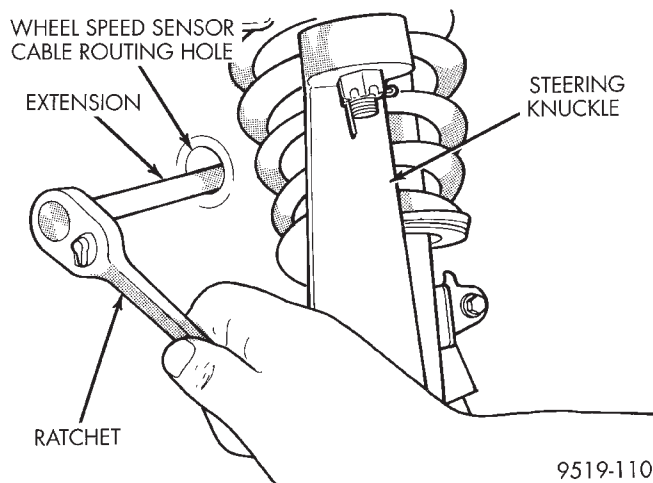
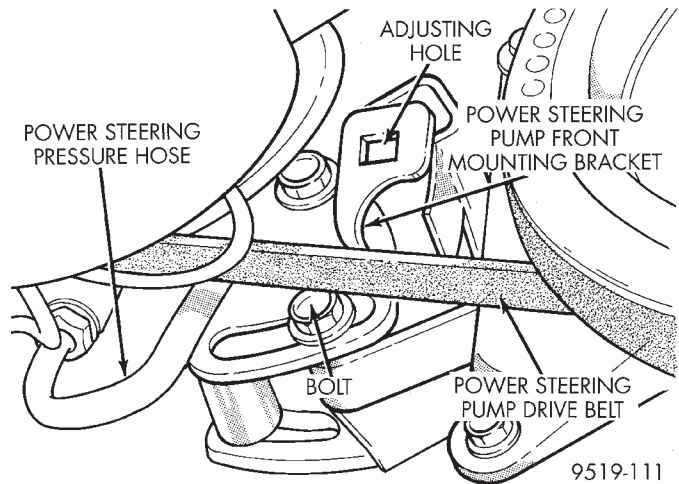

Fig. 29 Access To Top Mounting Bolt For Power Steering Pump
Fig. 30 Power Steering Pump Front Mounting Bracket Adjusting Hole
(14) Remove bolt attaching top of power steering pump front bracket to the cast aluminum mounting bracket. Access to the top bolt is through the wheel speed sensor cable routing hole (Fig. 29). To access the bolt use a long extension and a 15 mm flex socket.
(4) Loosely install bolt attaching top of power steering pump front bracket to the cast aluminum accessory drive bracket. Access to install the bolt is through the wheel speed sensor cable routing hole (Fig. 29).
(5) Using a lint free towel, wipe clean all open power steering hose ends, and power steering pump fittings.
(6) Install a new O-ring on end of power steering pressure hose fitting.
(7) Lubricate both O-rings using fresh clean power steering fluid.
(8) Install the power steering pressure hose on the power steering pump pressure fitting. Loosely install tube nut into pressure fitting on power steering pump. **Pressure hose must be installed between the front bracket of the power steering pump and power steering pump pulley.**
(9) Install power steering pump drive belt on power steering pump pulley.
(10) Install a 1/2 in. breaker bar in the square adjusting hole in the front power steering pump mounting bracket (Fig. 30). Then using breaker bar rotate power steering pump to obtain the correct drive belt tension. See Accessory Drive Belts in Group 7 Cooling System of this service manual for the correct drive belt tension specification. When correct drive belt tension is obtained first tighten the bottom 2 adjusting slot bolts at the power steering pump cast mounting bracket to a torque of 54 N·m (40 ft. lbs.). Then tighten the power steering pump mounting bracket top pivot bolt to a torque of 54 N·m (40 ft. lbs.). Access to tighten and torque the bolt is through the wheel speed sensor cable routing hole (Fig. 29).
(11) Install power steering supply hose on power steering pump suction fitting. Install hose clamp on hose, being sure hose clamp is installed on hose past upset bead on power steering pump tube.
(12) Position power steering pressure hose in outlet fitting of power steering pump, so hose is not contacting the pulley of power steering pump drive belt. The tighten tube nut to a torque of 31 N·m (275 in. lbs.).